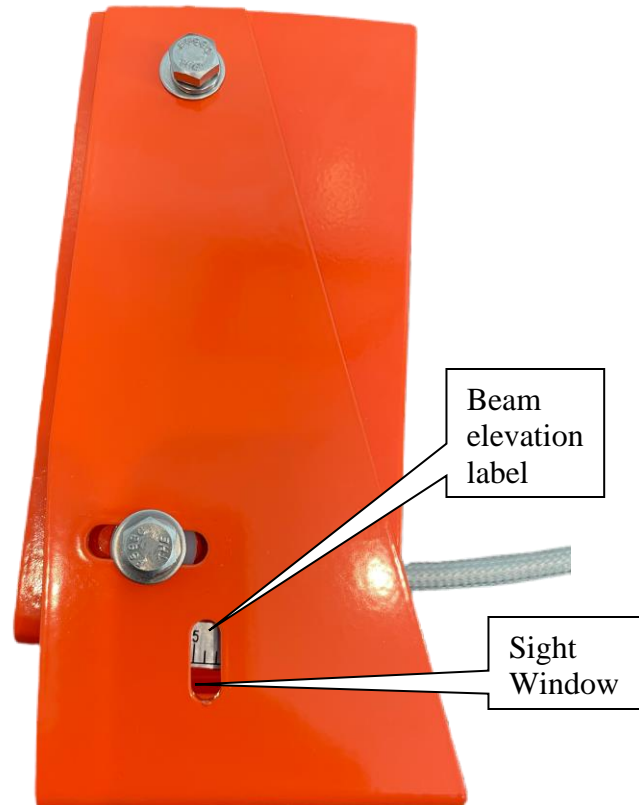

Figure 3
1. The beacon head has four screws that secure the lamp to the lamp support brackets. Loosen these four screws. This will allow the head to pivot on the top mounting bolts. (See figure 3)
2. Locate the beam elevation label on the right side of the beacon head. (See figure 3)
3. Locate the sight window at the bottom of the right support bracket. (See figure 3)